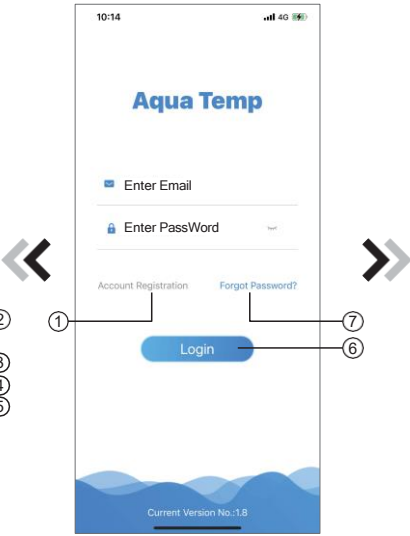
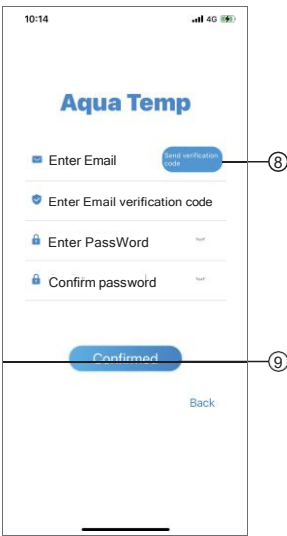

Fig.1 Login interface
Fig.3 Forgot Password interface
1. Account Registration: T register an account, click ① (Fig.1) to jump to the Account Registration interface, fill in the relevant information and click ② to receive verification code, while completed the application information, click ③ to read the details of the Privacy Policy, then click ④ to agree, and click ⑤, registration is done.
2. Log in: Follow the instructions on the page(Fig.1), enter your registered email address and password, cli ⑥ and jump to device list;
3. Forgot Password: While forget your password, click ⑦ (Fig.1), jump to the Forgot Password interfa (Fig.3). Follow the instructions on the page, fill in the relevant informations, click ⑧ to receive verification code from your mailbox, click ⑨ to confirm and password reset is done.